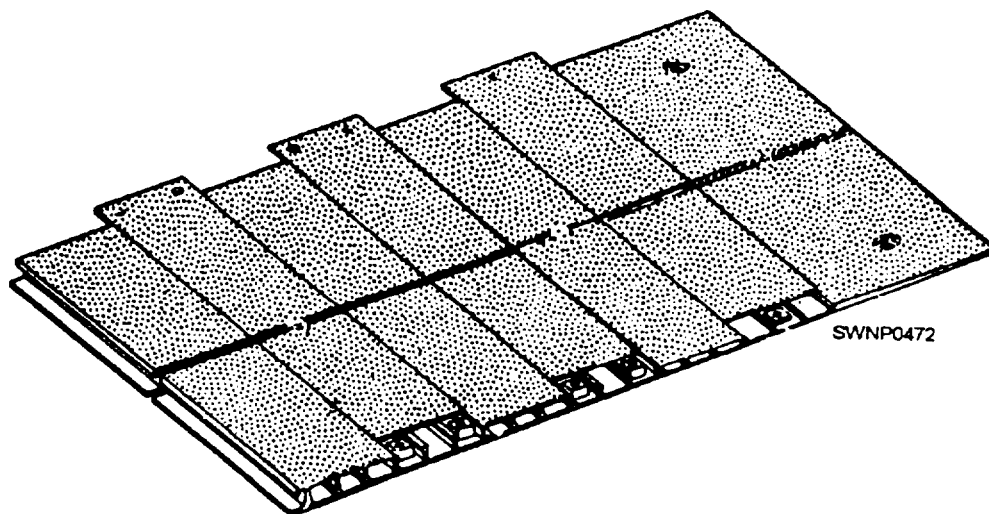

Figure 11-20.—Mat end ramp.
**MAT END RAMPS** are used at the ends of the runways, laid on a hard surface (concrete), to smooth the passage from one surface to the other. The edge connection between the ramp and mat sections is the same as between two rows of matting. The ramp is fabricated from aluminum extrusions and is provided with welded inserts and extension plates, drilled and tapped to allow the ramp sections to be joined and anchored. (See fig. 11-20,)